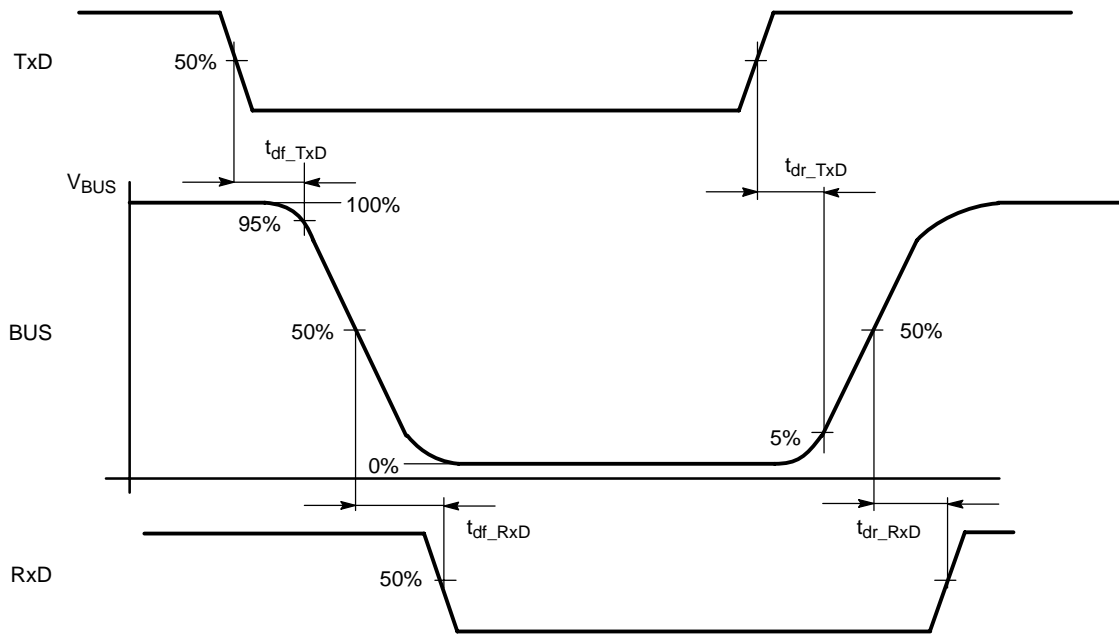

Figure 2. Timing Diagram for Propagation Delay
10. See Figures 2 and 3, Timing Diagrams.